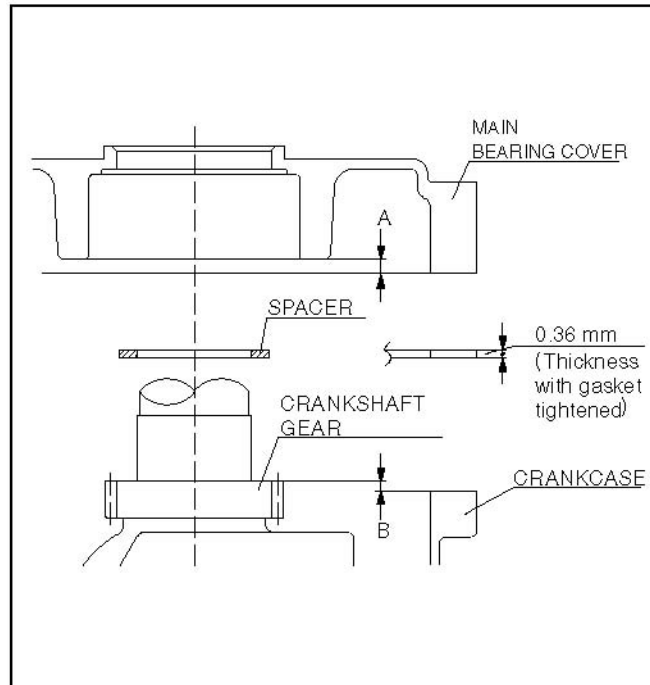
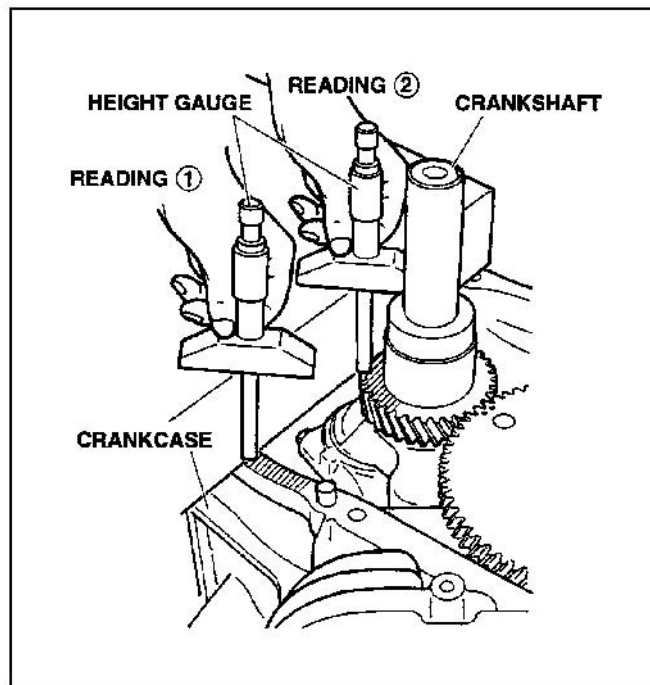

FIGURE 69. CRANKSHAFT END PLAY
FIGURE 70. CRANKSHAFT END PLAY
1. Measure and record the A and B distances (Figure 69). Figure 70 shows a method for determining the B distance. B is equal to Reading 1 minus Reading 2.